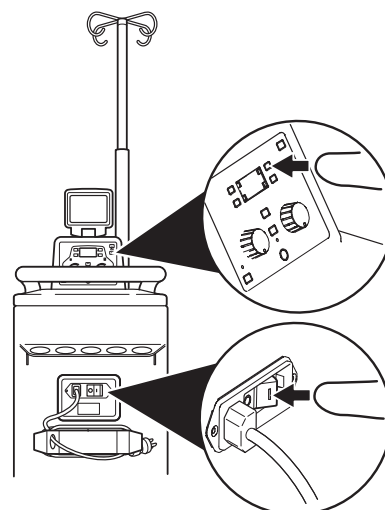

Figure 10 To Access System Setup
3. Push the control panel display button and the power button to ON simultaneously (see figure 10).